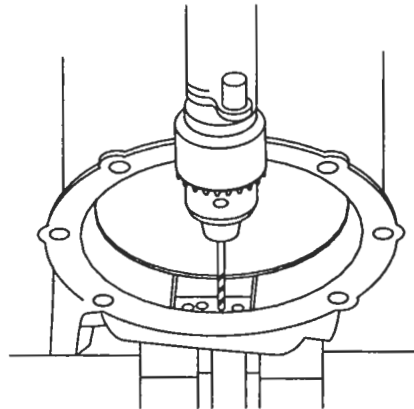

Figure 5. Drilling Valve-to-Shaft Holes
8. Place the housing on the drill press. With the valve held in the wide open run position, align the 1/8 inch drill bit with the marks center punched on the valve in Step 6. Then drill through the valve and shaft (Figure 5.) Install the retaining pins to hold the valve to the shaft.